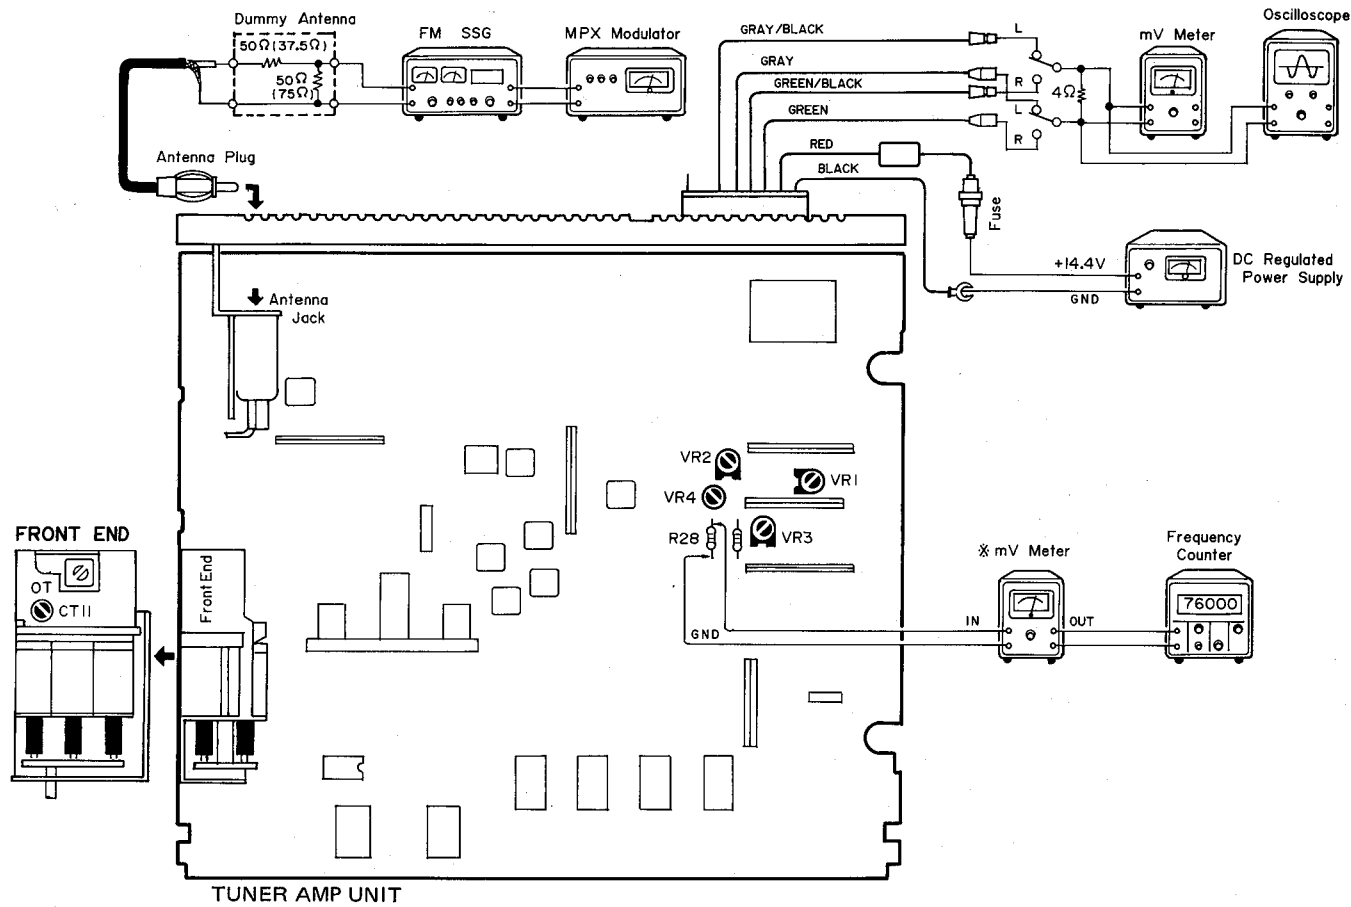

Fig. 27
- Connection Diagram (Shown in Fig. 27)